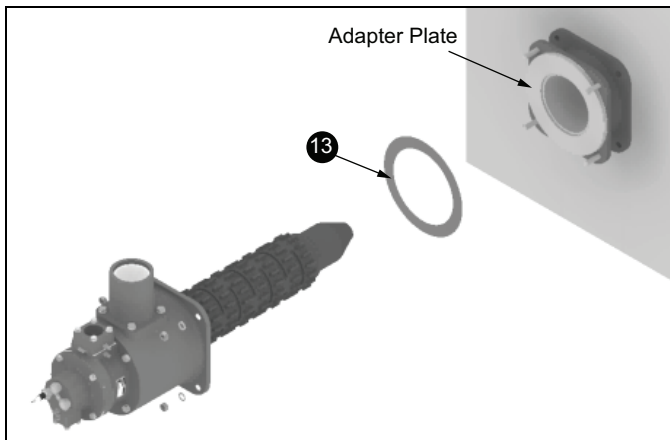

Figure 3.14
- Adhere gasket (item 13) to the Adapter Plate using a spray adhesive. See Figure 3.14.